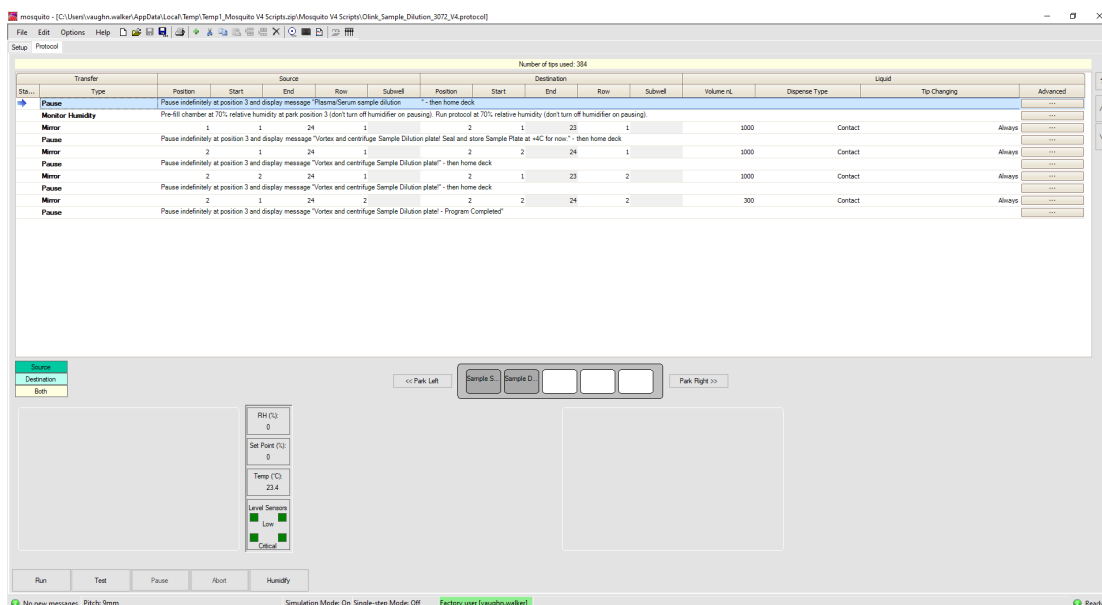

Figure 15. Protocol tab (here: Sample Dilution protocol)
- Under the *Protocol* tab, the different steps in the protocol are listed (Figure 15). Some steps contain instructions that are shown on the screen during the run. The humidity display will change color depending on the humidity (blue within  $\pm 5\%$  of the Set Point and red when outside  $\pm 5\%$  of the Set Point).